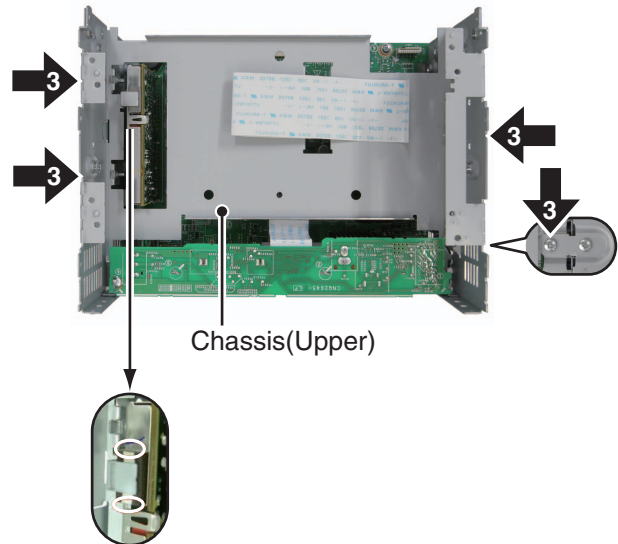

Fig.8
- ➔ 3 Remove the four screws and then remove Chassis(Upper) while holding both edges of the gasket. (Fig.8)